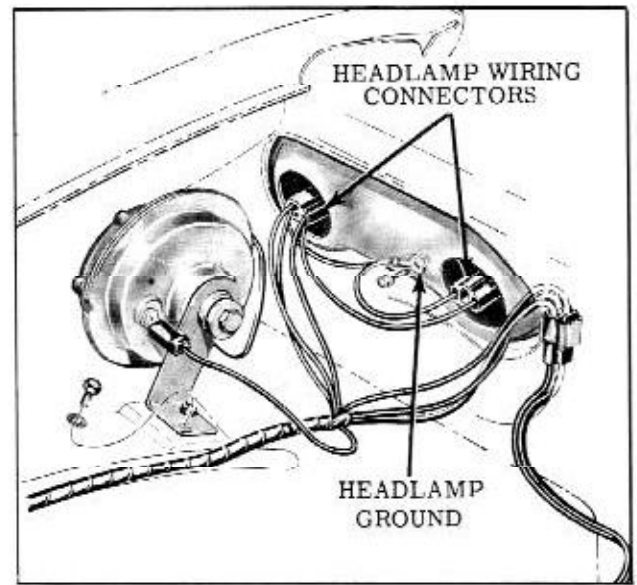

Fig. 11-6 Headlamp Wiring
2. Disconnect headlamp wiring connectors from headlamp terminal and remove headlamp ground screw. (Fig. 11-6)